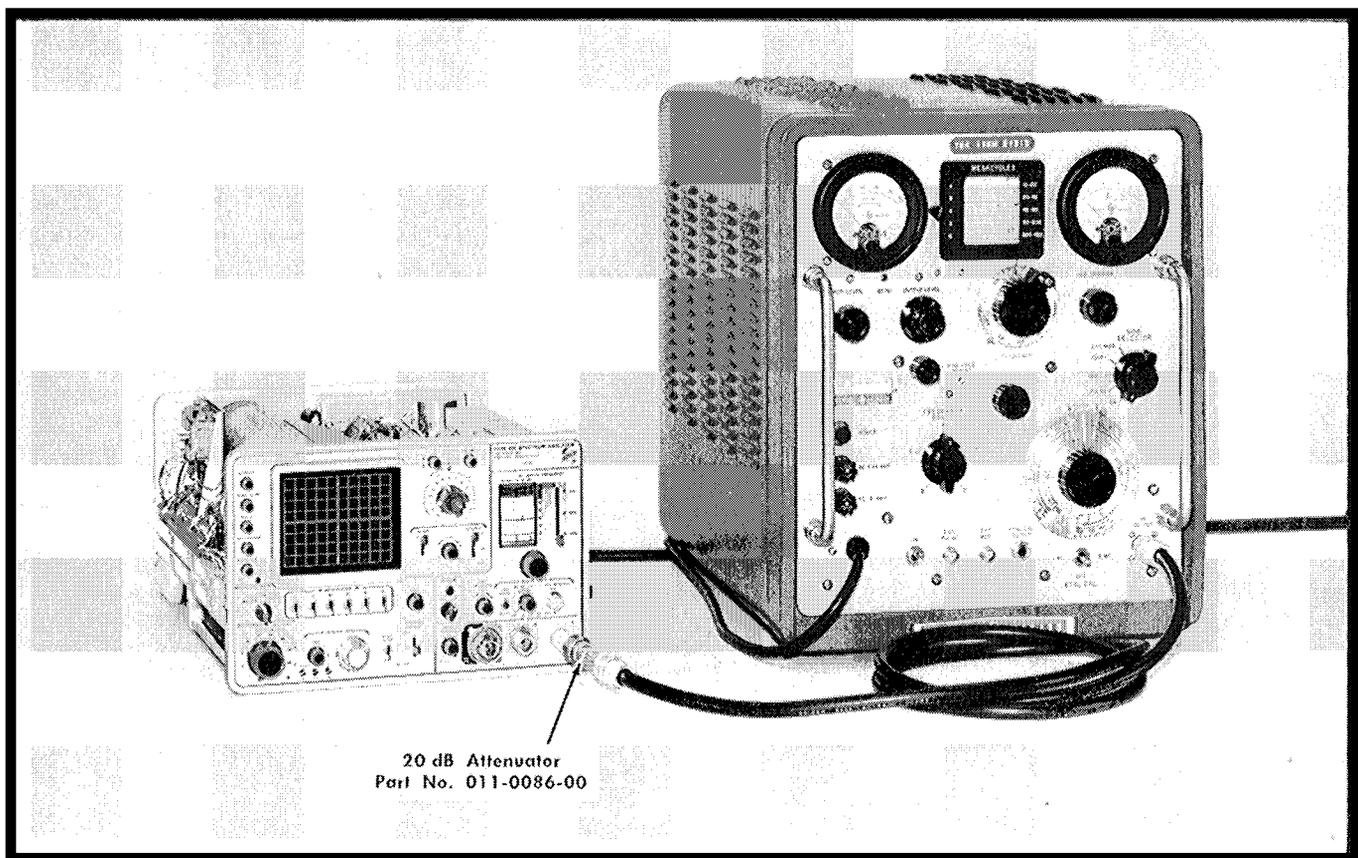
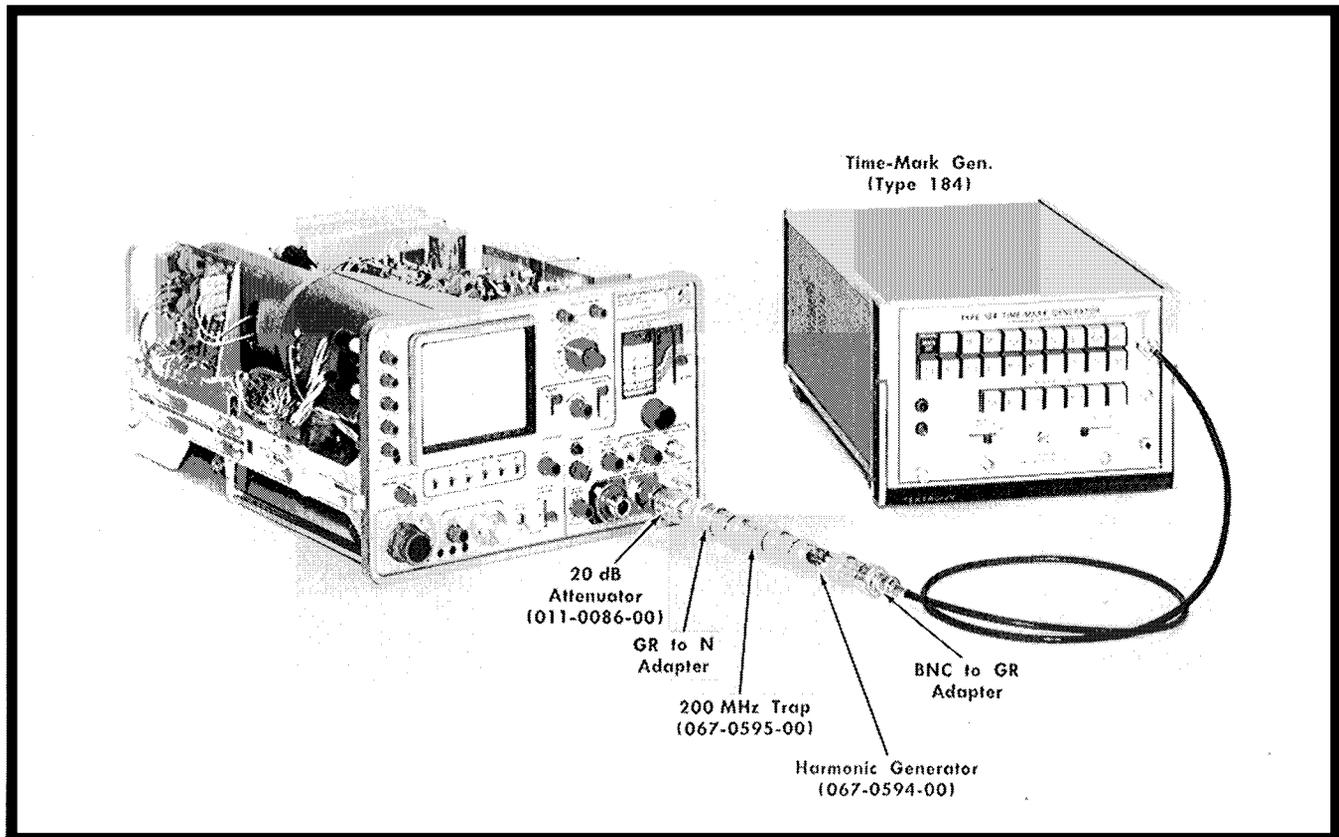

Fig. 6-41. Typical equipment setup to check response flatness, sensitivity, frequency calibration and phase lock operation.
Fig. 6-45. Alternate equipment setup that will check dial accuracy, mixer and oscillator operation, and LO phase lock effectiveness.
a. Equipment setups are shown in Fig. 6-41 through 6-43. Fig. 6-45 shows the setup for the alternate procedure to check dial accuracy (step 38B).
- a. Equipment setup is shown in Fig. 6-45.